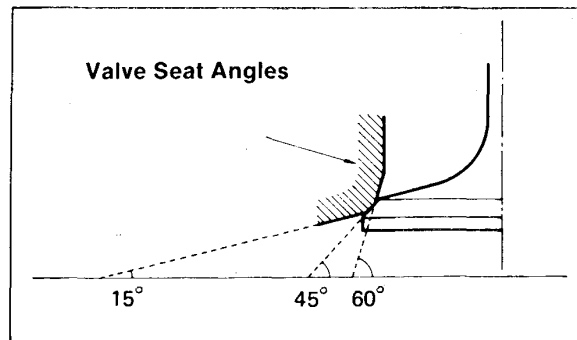

Figure 4-43
5. Recondition the valve seat. Three cuts are required to properly recondition the valve seat. See Fig. 4-43.